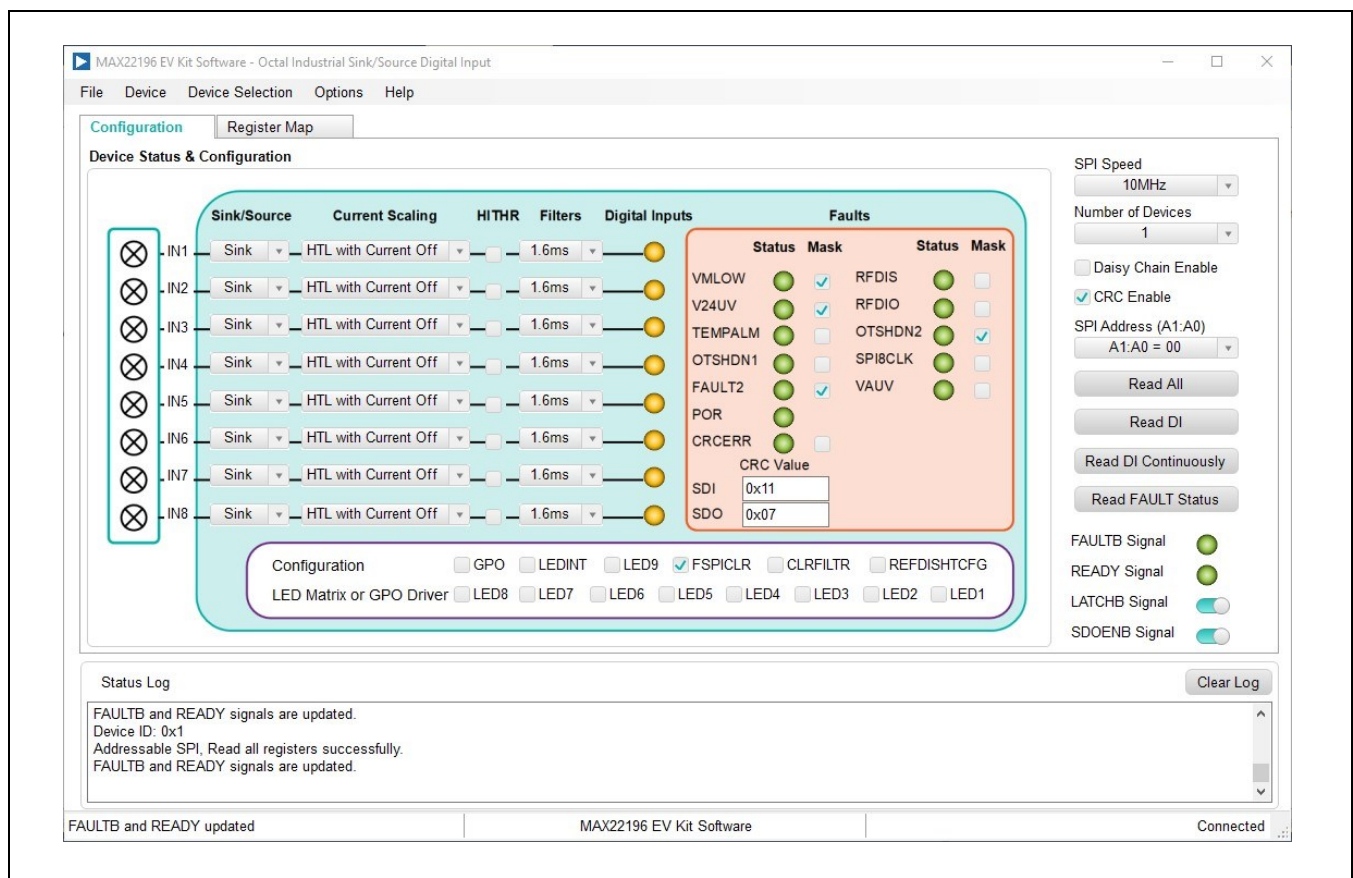

Figure 1. MAX22196 EV Kit Software Startup Window
9. Once the hardware is ready to use, launch the EV kit software by opening its icon in the **Start | Programs** menu. During the EV kit software launch, two message boxes are shown to indicate that the address bits A1 and A0 setting in the software should match the A1 and A0 address pins on the board. The CRC enable setting in the software should match the CRCEN pin on the board. Click **OK** to close the message box. The EV kit software appears as shown in Figure 1.
When the MAX22196 EV kit software starts, it automatically detects if the EV kit is connected to a PC and indicates its status in the status bar at the bottom edge of the GUI. If the software does not recognize the EV kit board, make sure that the software and all drivers are properly installed, check the USB connection, and go to the **Device** menu and select the **Search for Hardware** option. When the EV kit is properly connected, the MAX22196 device is read and all controls are updated (see Figure 1).
After power up, the MAX22196 $\overline{\text{FAULT}}$ pin is low, the POR and FAULT2 bits in the FAULT1 register and the VAUV bit in the FAULT2 register are set, indicating that a power-on-reset has occurred and all registers are set to default. Upon launching the MAX22196 EV kit software, all registers are read twice to clear latched faults and retrieve the latest register values. If the device operates normally, all faults are cleared as shown in Figure 1 and FAULTB LED is turned off.